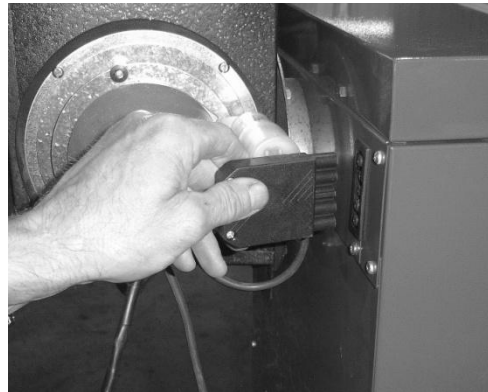

Fig 10.10
16. Power up the boiler by inserting the main connection into the back of the boiler as shown in fig 10.10.